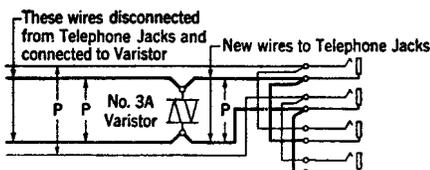

Fig. 3 - Connections for P.B.X.'s
3.06 Connect the leads to the varistor and telephone jacks as indicated by Fig. 3.
**4.03** Inspect all wiring and check to see that the connections have been made in accordance with Figs. 3, 5, 8 or 10.